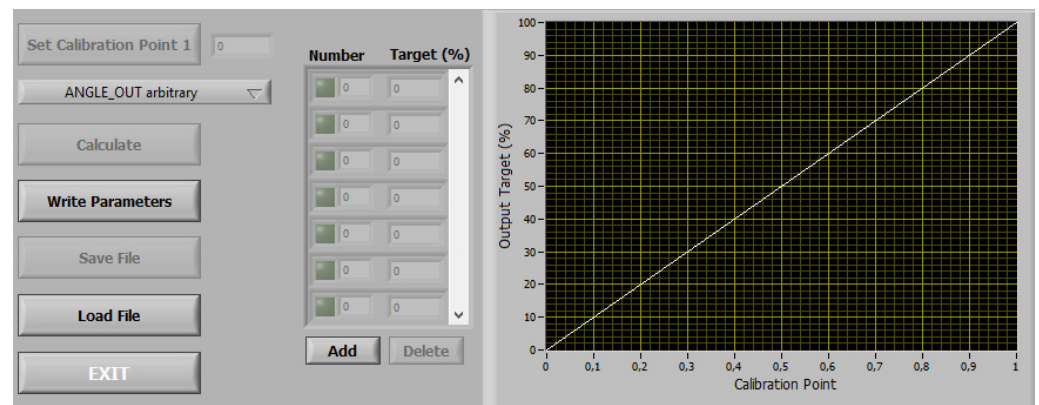

Fig. 4-27: Mutli-Point Calibration Panel
Therefore the panel allows the user to define the desired output behavior by adding calibration points manually or loading a text file (see Fig. 4-27). The file shall contain two tab-separated columns, one counting the number of the calibration points and one with the according output values in percentage of full scale. The maximum number of available calibration points is determined by the number of available variable setpoints (17). At least two calibration points have to be used for a successful calculation. The target values can be set arbitrarily (ascending, steady, or decreasing).